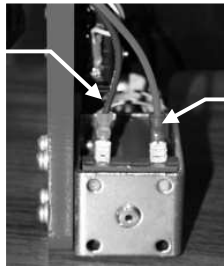

Figure 7
8. Connect the red and black wire leads to the solenoid. See Figure 7